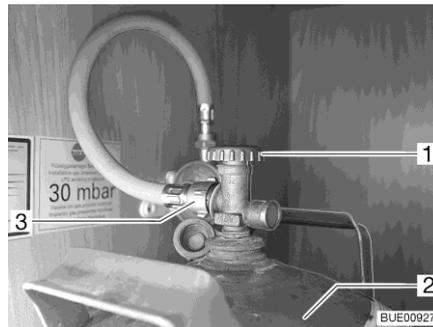

Fig. 177 Gas bottle compartment
- Close the regulator tap (Fig. 177,1) on the gas bottle (Fig. 177,2). Pay attention to the direction of the arrow.
- Unscrew the gas tube (Fig. 177,3) from the gas bottle.